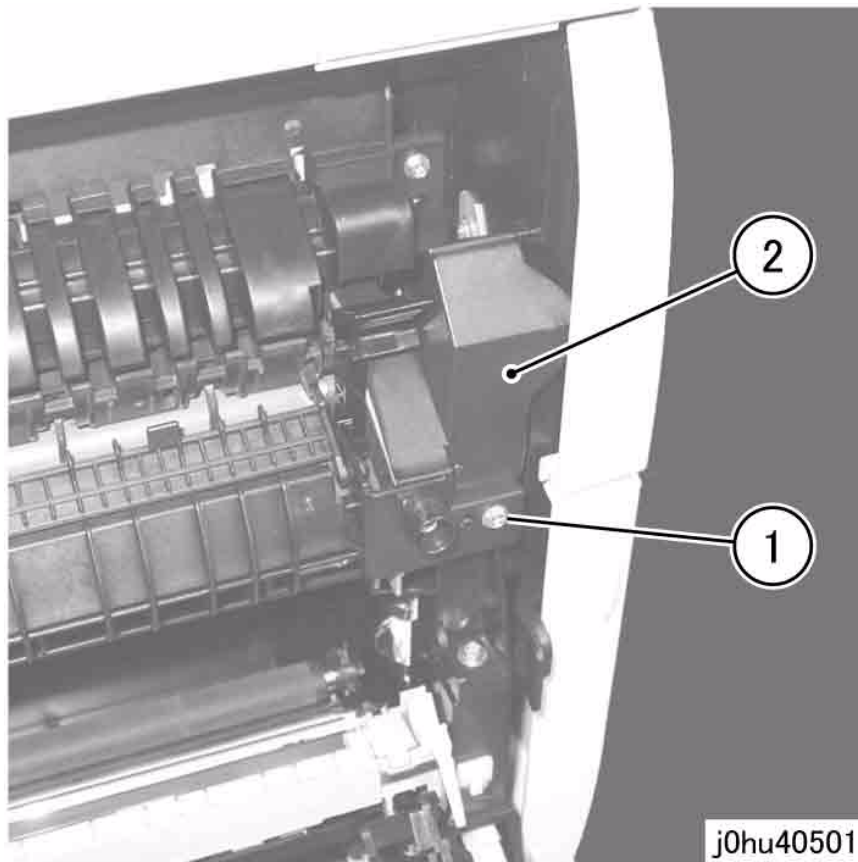

Figure 2 Remove Connector Cover
4. Remove the Connector Cover (Figure 2).